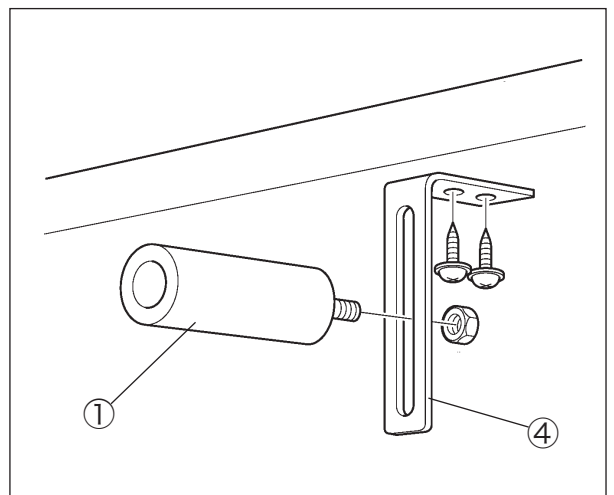

Fig. 3-3
The tension roller ① can be set on lower position of the tension roller holder ③ or on the roller holder(lower) ④ on the back surface of the table (Fig. 3-3).
- Loosen the screws ⑥ to align the right-and-left position of the elastic tape guide ⑤ of the elastic tape front roller ② with the right edge of the elastic tape. And loosen the screws ⑦ to adjust up-and-down position and its direction.